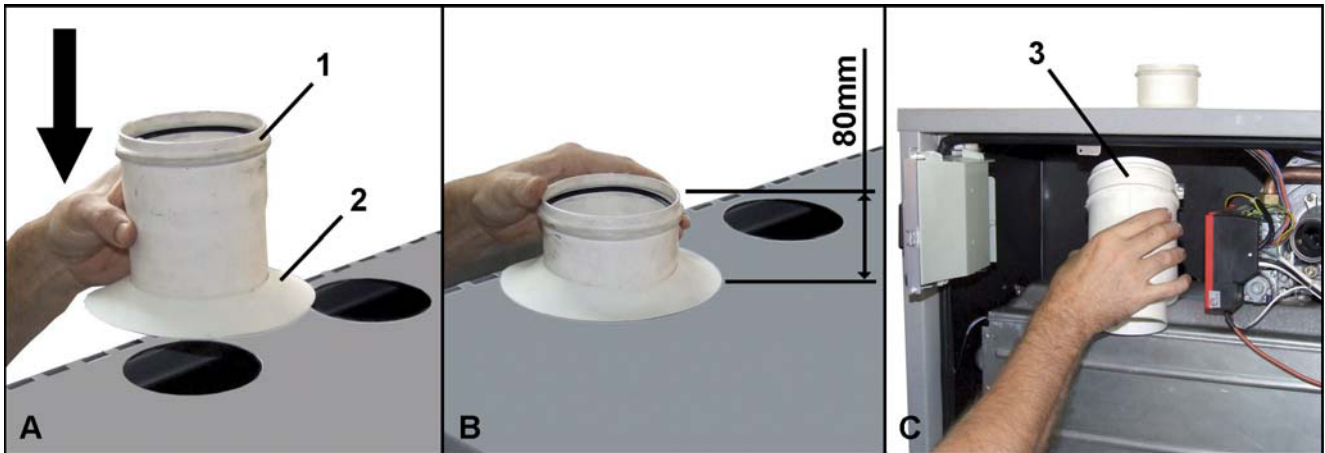

fig. 33
- B Respect the distance given in the box "B" of fig. 33. This distance must be increased by 5 mm with each additional module.